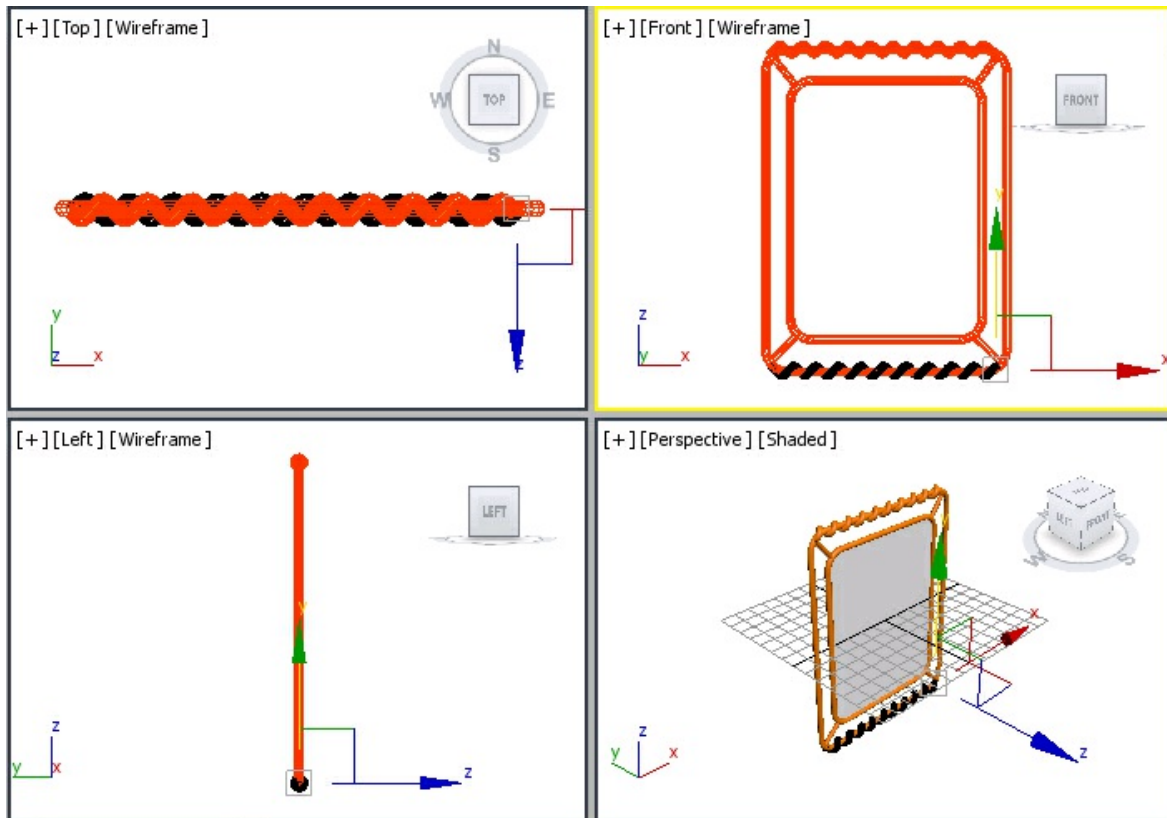

Figure 5-64 The copy of design1 aligned in the viewports
7. Create a copy of *design1* and align it, as shown in Figure 5-64.